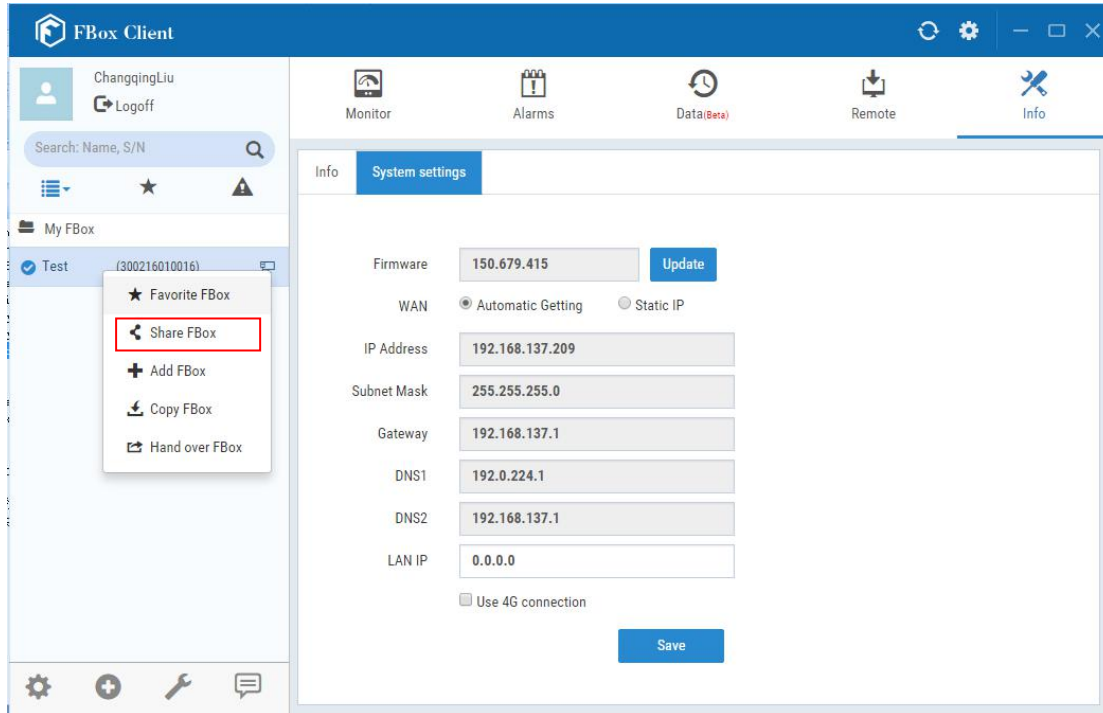

Fig. 4.5-14 Share FBox
(1) After selecting the FBox device and clicking the right mouse button in the FBox device list, a shortcut menu will pop up, as shown in Fig. 4.5-14.